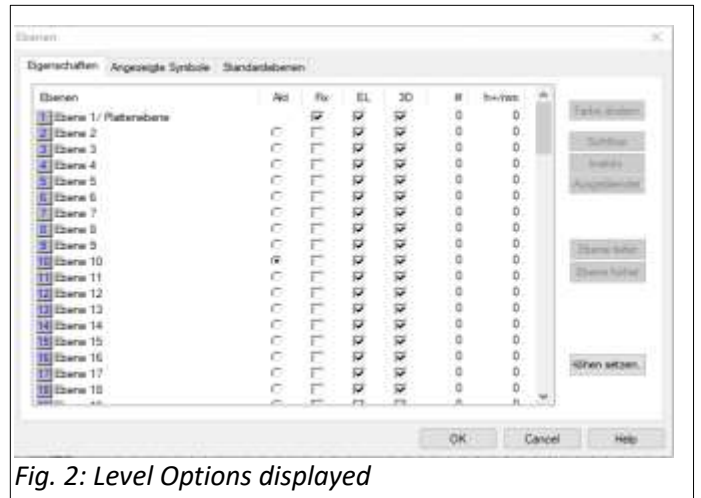

Fig. 2: Level Options displayed
**d (blue)** - This is the level options window. When you click here you can select colors for elements (track) on that level. You can also select which items to display in the different view modes (elevation and 3D view). A 'fix' column also lets you lock down a level. (Fig. 2)